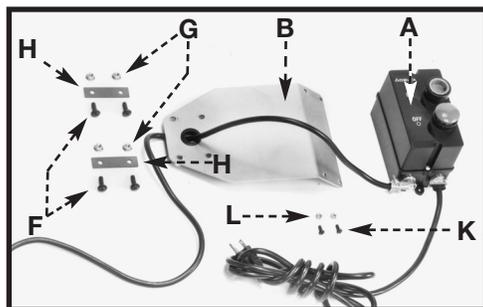
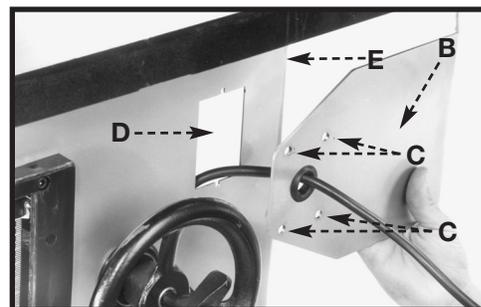
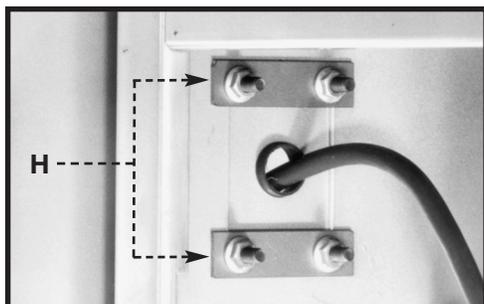
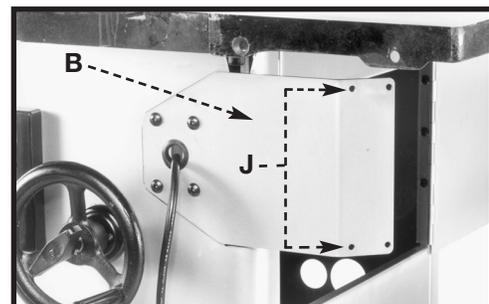

Fig. 6
Fig. 7
Fig. 8
Fig. 9
1. The on/off switch (A) Fig. 6 and switch mounting bracket (B) are shipped inside the shaper cabinet. Open the side door of the shaper cabinet, remove the switch package, and remove all packaging material.
2. Position the switch mounting bracket (B) Fig. 7 with the holes (C) over hole (D) in the shaper cabinet (E). Fasten the bracket (B) to the cabinet (E) using the four 1/4-20 x 7/8" truss head screws (F) Fig. 6, 1/4-20 flange nuts, (G) and the two switch adapter plates (H) Fig. 8.
**NOTE:** Position the switch adapter plates (H) inside the shaper cabinet (Fig. 8).
4. Attach the on/off switch (A) Fig. 6 to the switch mounting bracket (B) Fig. 9, through the two holes (J). Use two #10-32 x 1/2" Phillips head screws (K) Fig. 6 and secure with #10-32 Keps nuts (L).